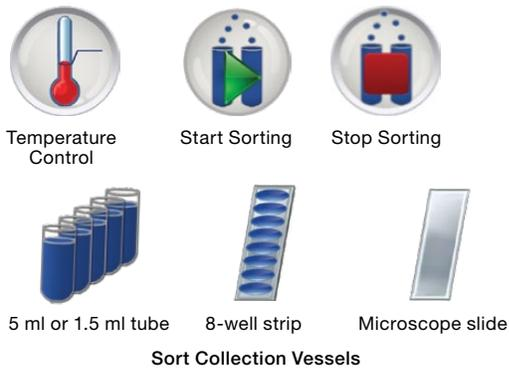

Fig. 9. Temperature Control and various sorting options in the instrument control panel.
8. Click the **Sort Logic** button and select a collection vessel in the Sort Logic dropdown menu (Figure 9). Clicking the **Sort Logic** button defaults to the last vessel used (initially set as 5 ml collection tubes).
12. Close the sort chamber door and click the **Start Sorting** button in the instrument control panel (Figure 9).